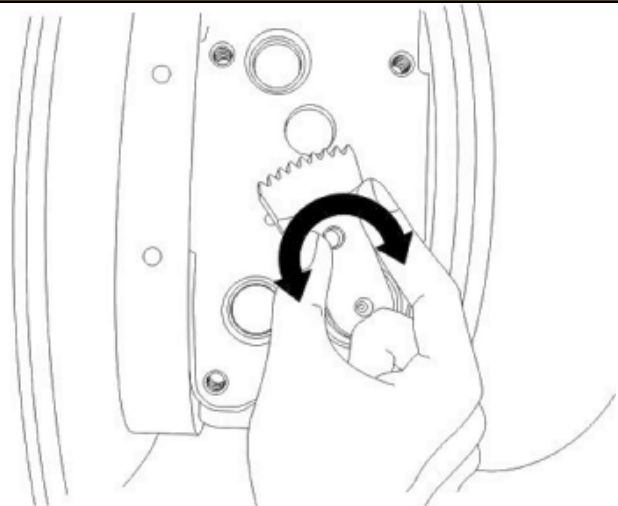

FIGURE 10
13. Using gloves, manually rotate the turbocharger sector gear back and forth (counterclockwise and clockwise) (FIGURE 10). It should be noted that when the sector gear is at the end of travel, or at an end stop, it can require significant force to overcome friction then, start its motion in the opposite direction. This is normal and not cause for concern. Apply more force to move the sector gear. Once in motion, the sector gear movement should be smooth, without binding or sticking until it reaches its end of travel (end stop).